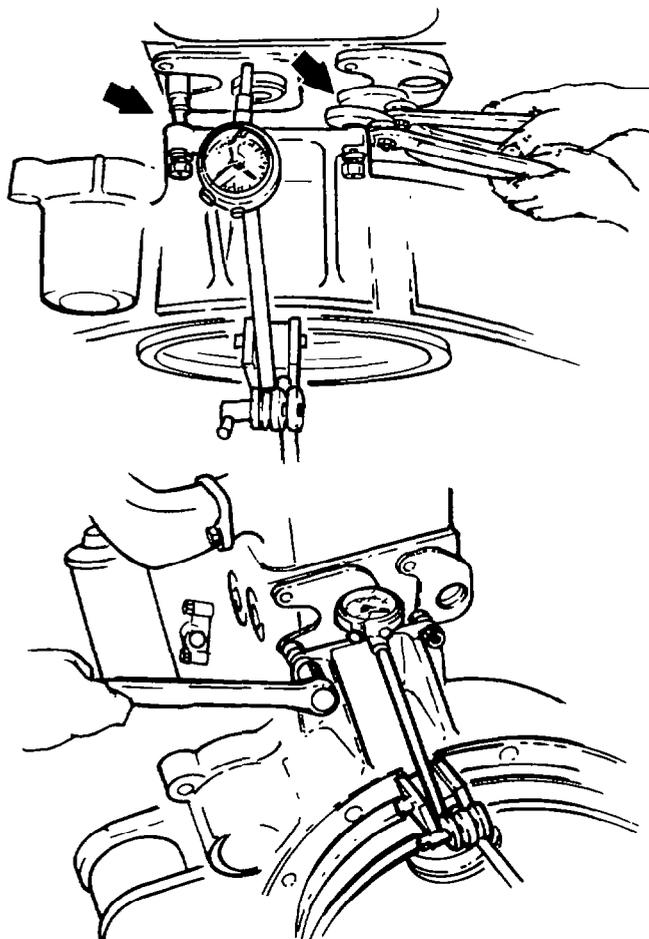

Fig. 75 — Pre-loading Flywheel Housing
- f. Mount the dial indicator gauge on the flywheel housing near the support bracket (see fig. 75) then zero the gauge.